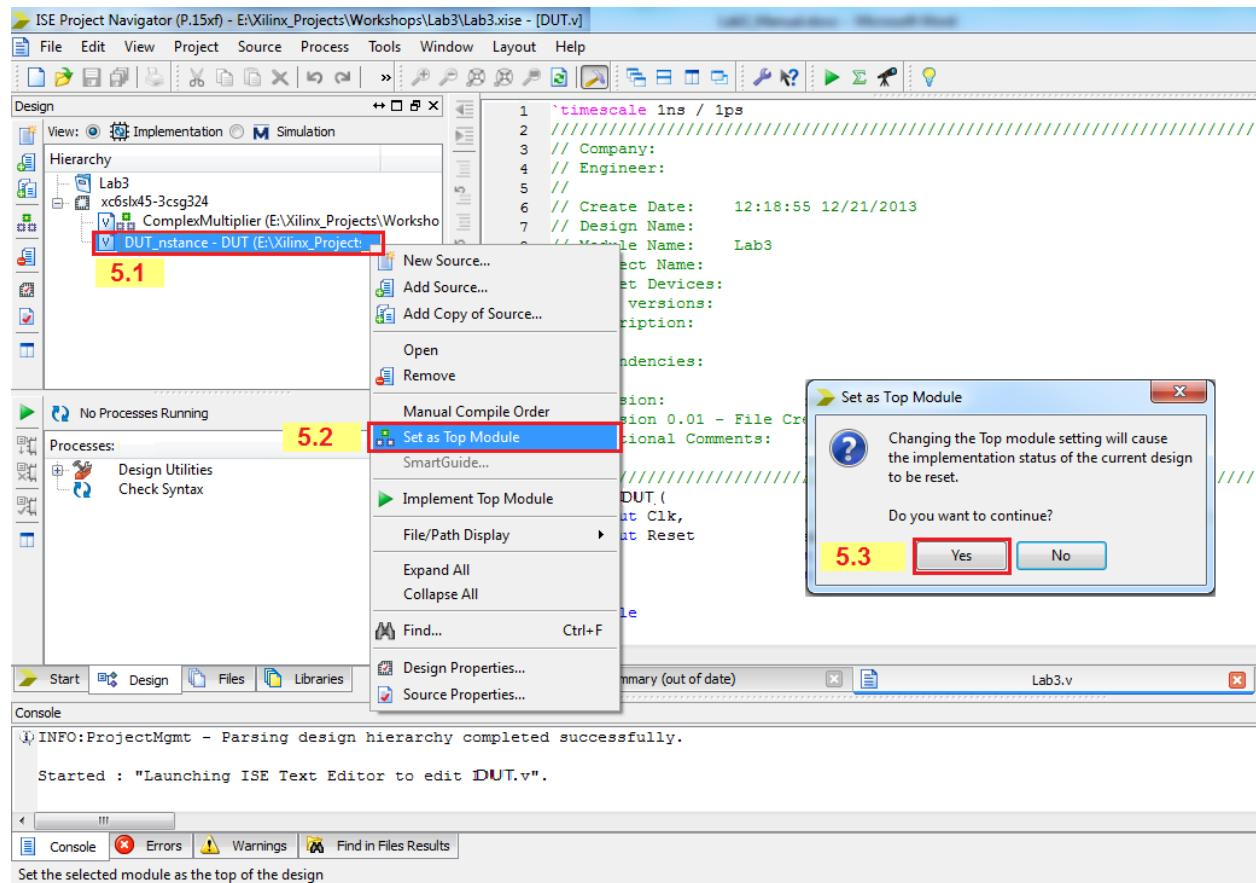

Figure 14.
5. Specify/Change the Top Module of the Design(Figure 14)